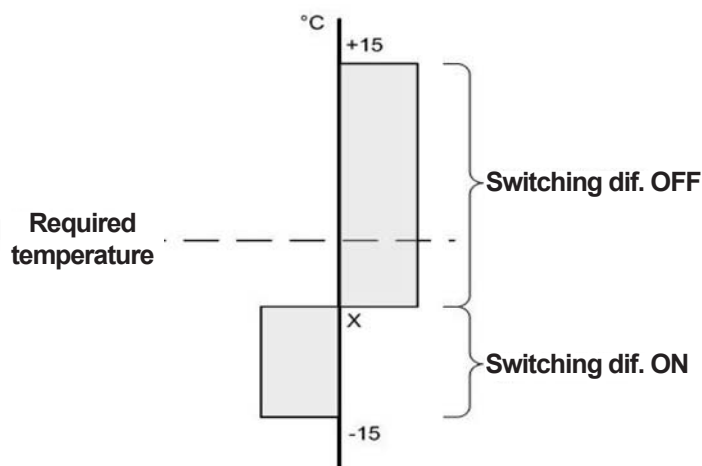

Fig. 5
**Note:** Lower limit of the difference is limited by upper limit of parameter Dif for OFF. If you wish to modify the temperature below the value, at first the parameter Dif for OFF (see figure 5) must be modified.
**Note:** Upper limit of the difference is limited by lower limit of parameter Dif for ON. If you wish to modify the temperature above the value, at first the parameter Dif for ON (see figure 5) must be modified.